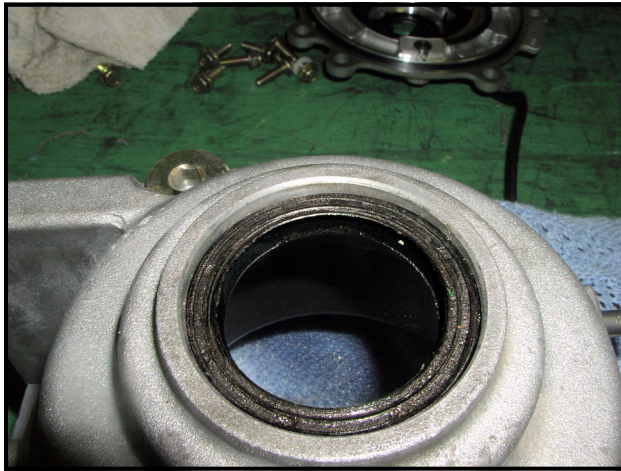

Figure 9-42 Install Output Seal
2. Install a seal into the gearcase cavity using a seal installation tool or large socket, slightly smaller than the seal body diameter (**Figure 9-42, Page 9-15**).